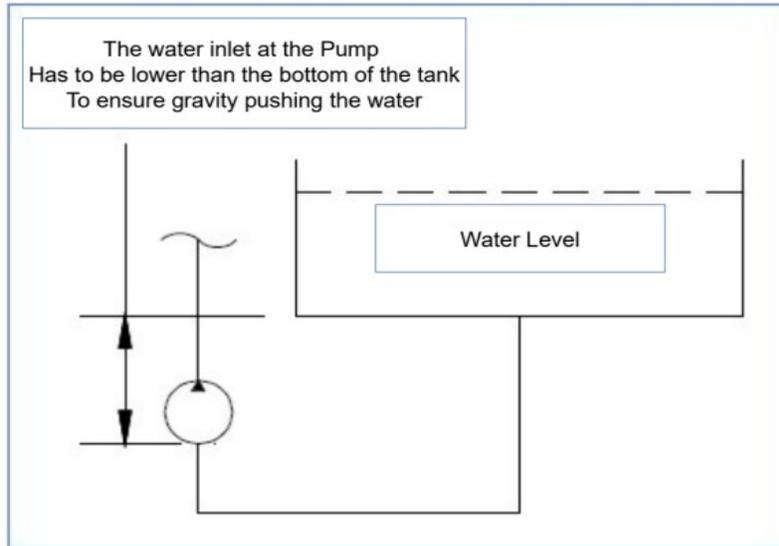

Figure 4.3 – Gravity Feeding Source
3. Gravity feeding water source (See **Figure 4.3**). Use a hose with a diameter of at least 1-1/2” to connect the water tank to the Power Unit water inlet.
Ensure that the water source can reliably deliver the maximum pump flow of 30 GPM (115 LPM). A minimum flow of 50 GPM (190 LPM) is recommended to ensure that the pump is not starved of water. If connecting to a gravity feed tank, locate the tank outlet above the water inlet connection on the Power Unit to ensure a flooded suction line (See **Figure 4.3**).